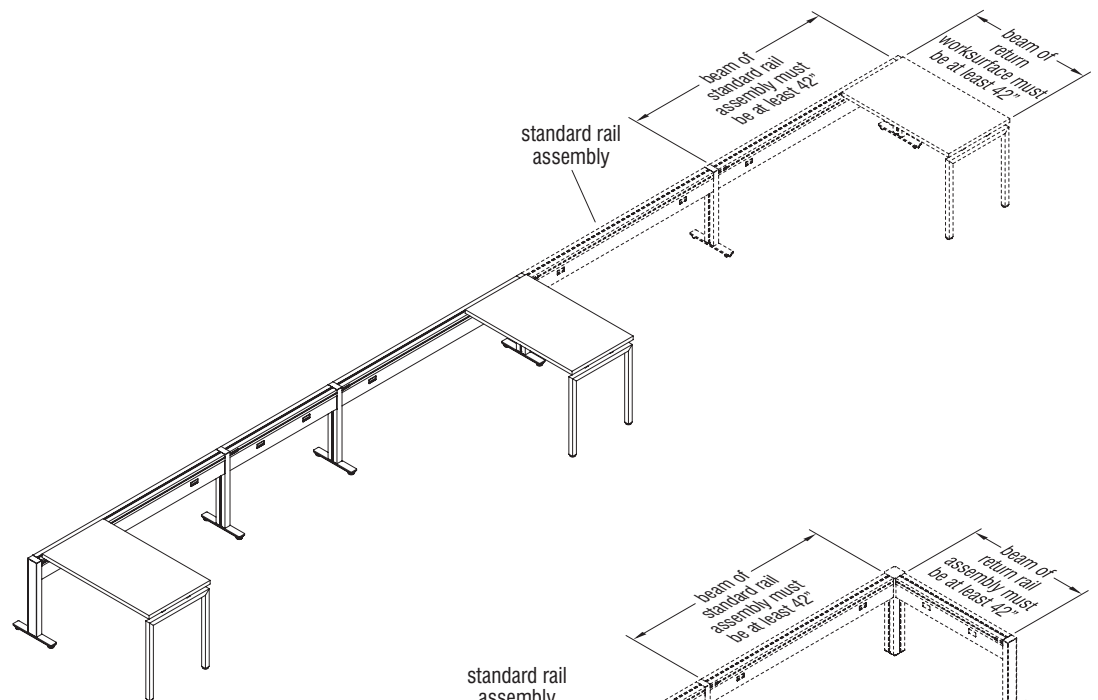

Figure 27
- If another two or three rail assemblies are added to the in-line standard rail assembly, another return must be added to the next second or third rail assembly for stability (Figures 27 & 28).
- The return worksurface or beam of the return rail assembly must be at least 42" in length (Figures 27 & 28).
- To attach a return worksurface or return rail assembly, the standard rail assembly must be at least 42" in length (Figures 27 & 28).